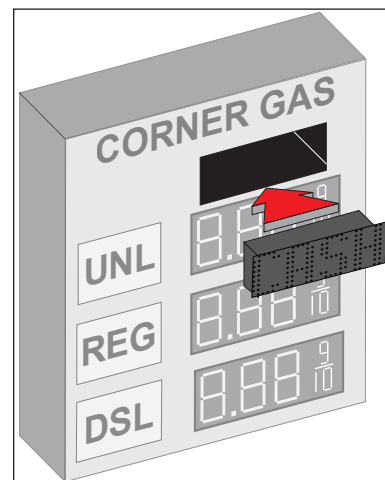

Figure 10: Inserting Display Into Cabinet
- Lift displays into the support structure. **Figure 10** shows a display being inserted into a support structure.